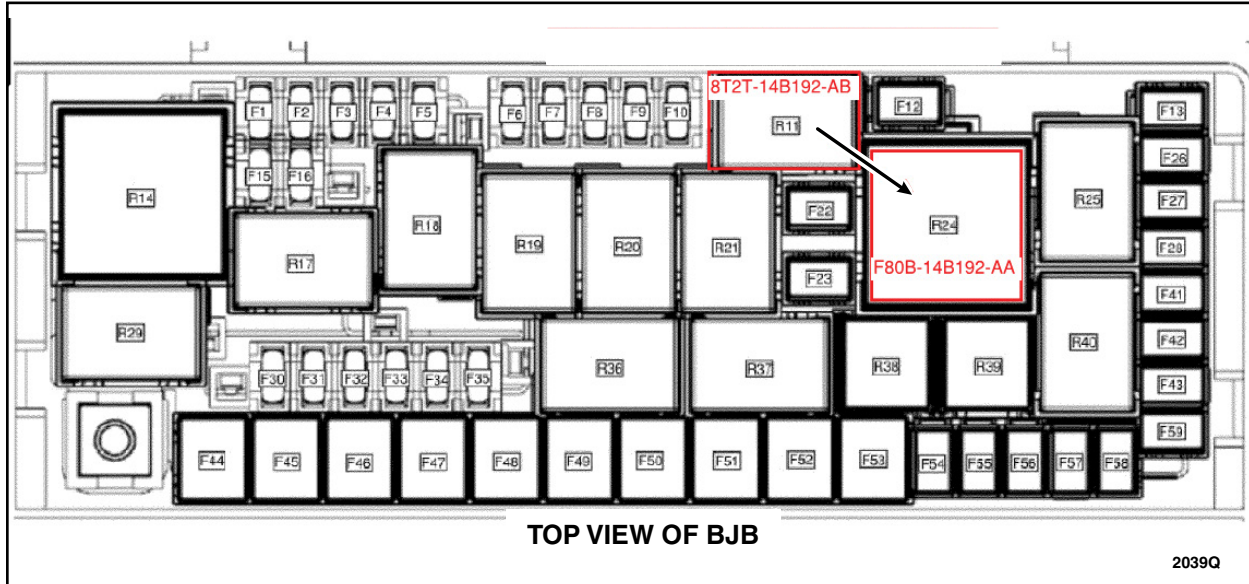
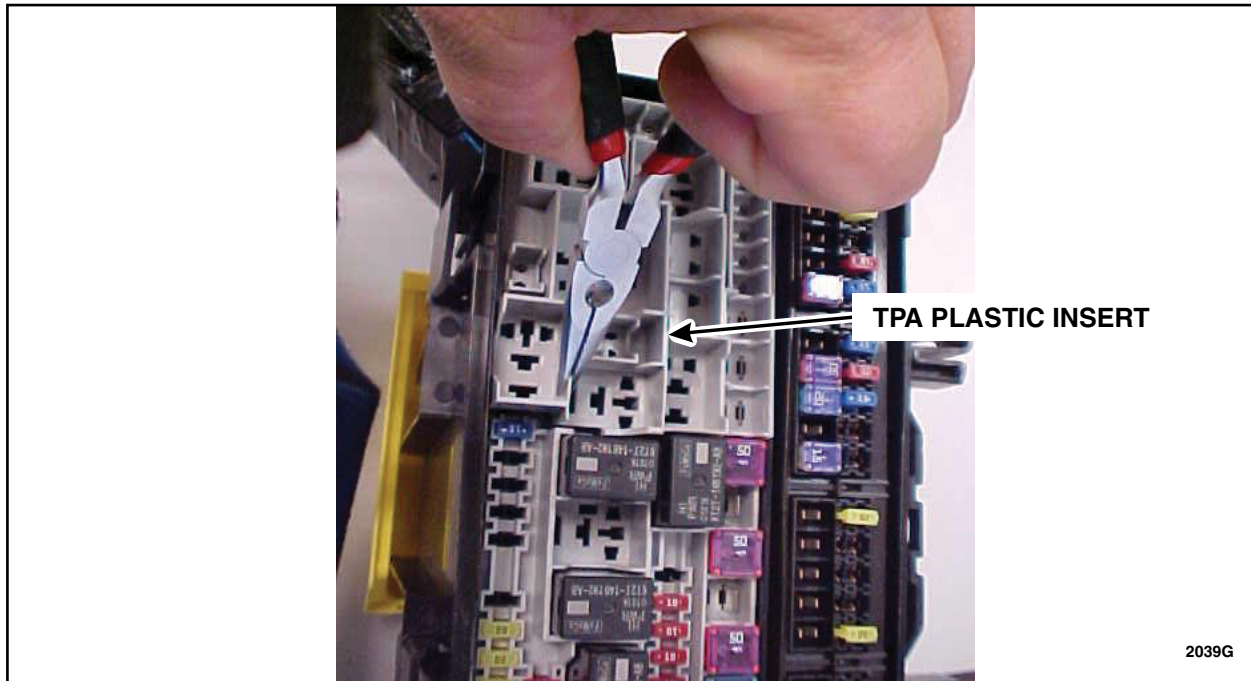

FIGURE 1
FIGURE 6
NOTE: The high speed cooling fan relay (R11) will be relocated to the (R24) position in the Battery Junction Box (BJB) as shown in Figures 1 and 2.
- Using a pair of needle nose pliers, pull straight up to remove the Terminal Position Assurance (TPA) plastic insert from the BJB as shown in Figure 6.
12. Reinstall the TPA plastic lock by aligning all of the male terminals in the BJB with the TPA lock and gently push straight down. As the TPA is installed, it can be felt as it passes by the lobes and properly seats. See Figure 6.
- Inspect all four (4) corners of the TPA insert to ensure it is flush with the BJB housing.
13. Install the *new* larger high speed cooling fan relay into the new location, R24. See Figures 1 and 16.